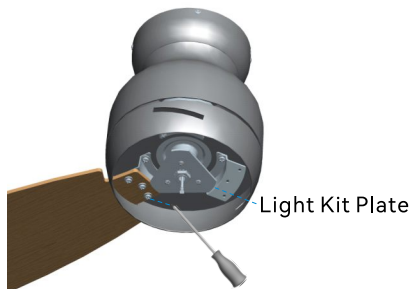

Fig 6.1
6.1 Locate 9 blade attachment screws and washers in the hardware pack. Slide blade through lamp cover and align three blade holes with the screw holes of the blade bracket and fasten blades with the screws and washers as shown in Fig 6.1.